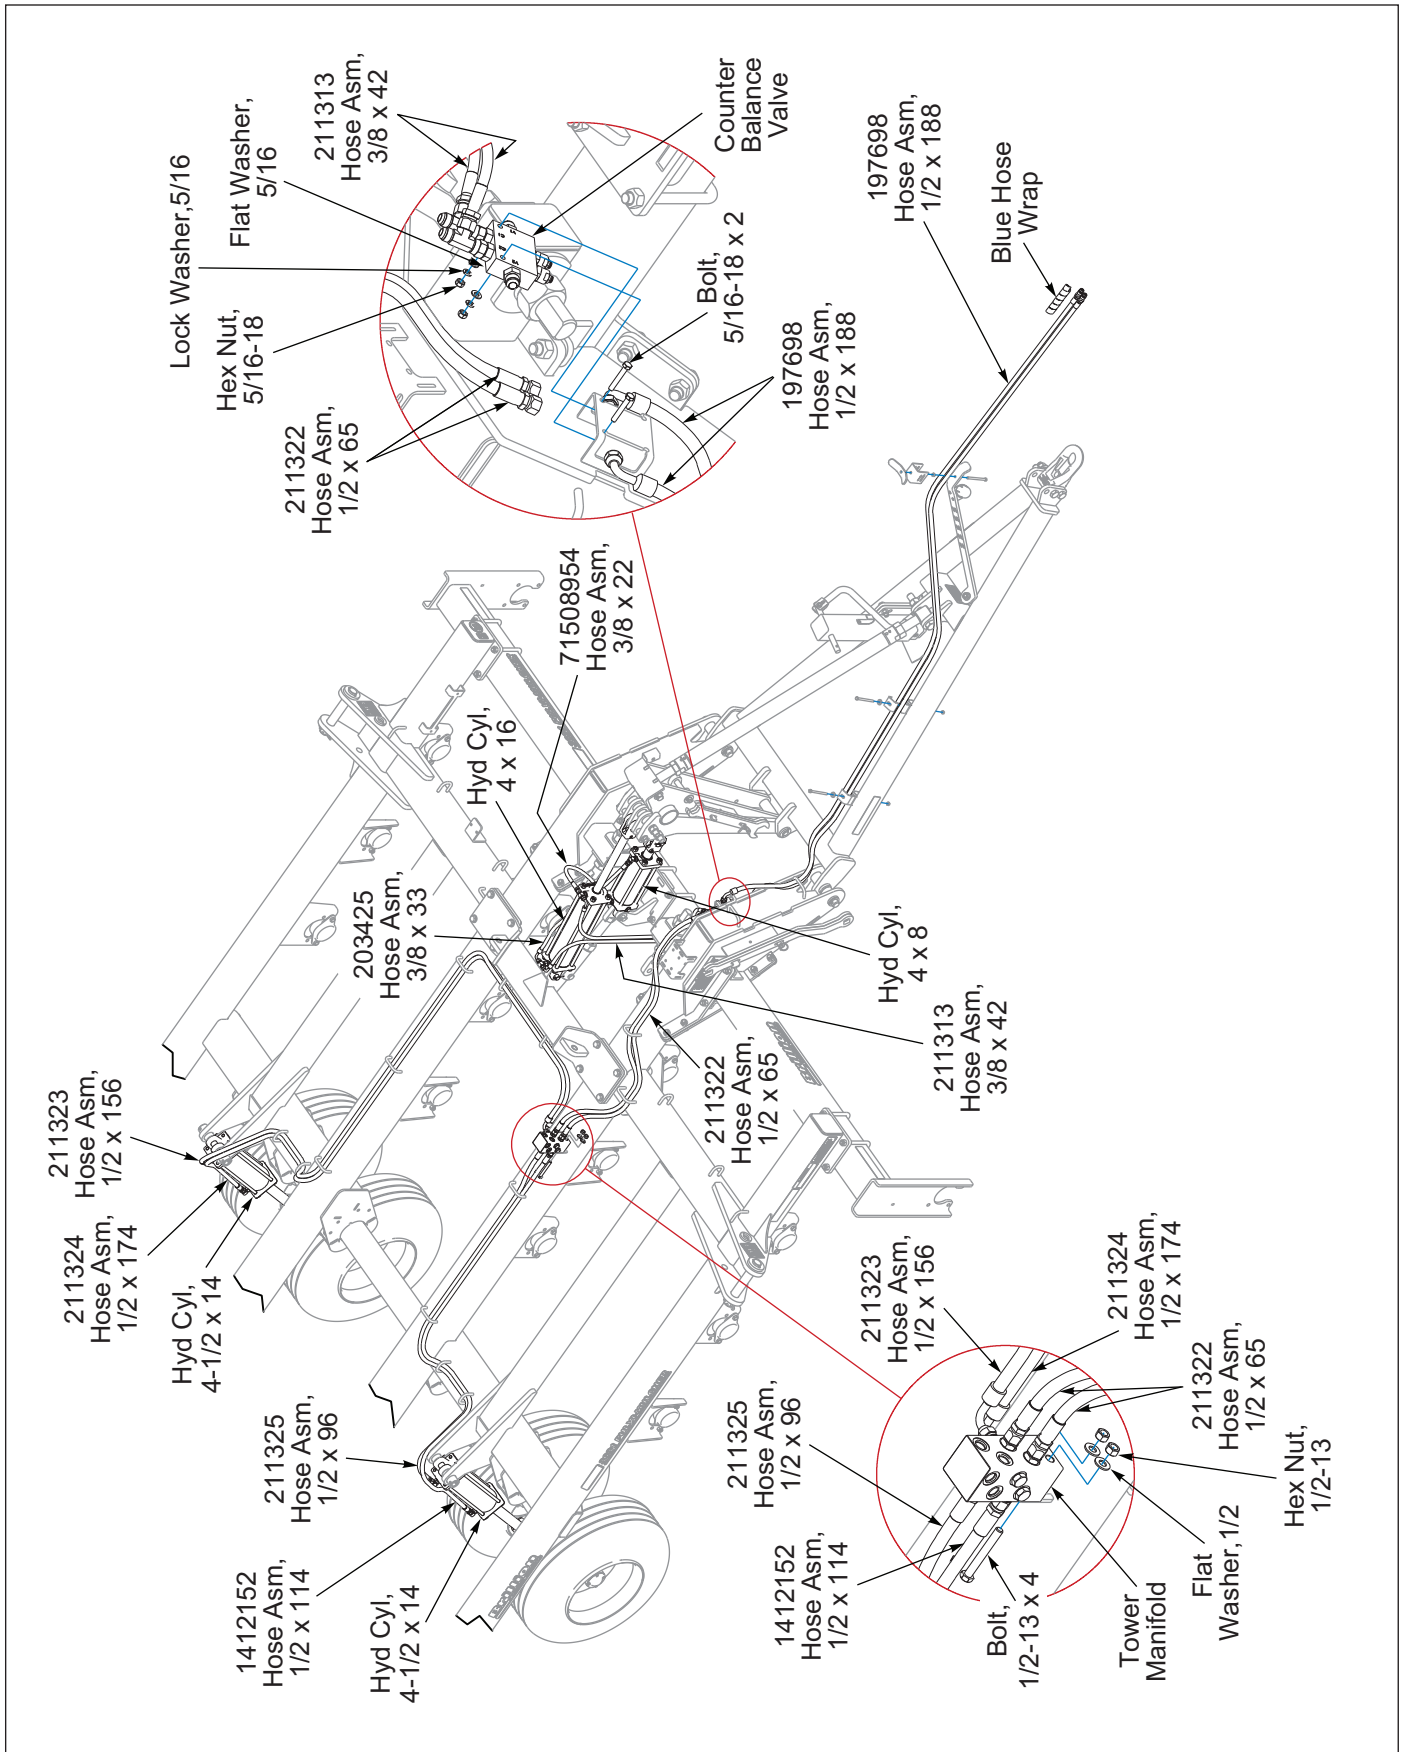

Figure 2-25: Hydraulic Lift Layout
3. Lift Circuit - Blue - See Figures 2-25 and 2-26. The Lift Circuit with machine raised, requires approximately 4.1 gallons of hydraulic oil and with machine lowered requires 3.7 gallons of hydraulic oil.
5. Install Restrictor and Branch Tee into the base end and O-Ring Branch Tee into the rod end of the 4 x 16 cylinder. **See Figures 2-25 and 2-26.**